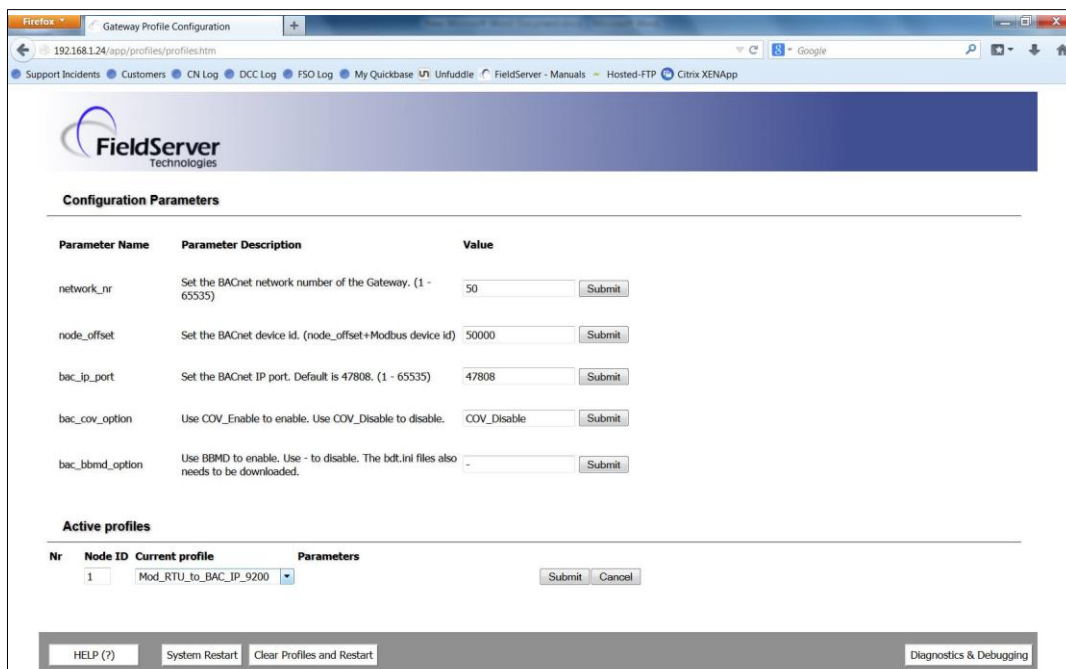

Figure 20: Web Configurator Showing an Active Profile Addition
- Completed additions will be listed under Active Profiles as show in Figure 20.